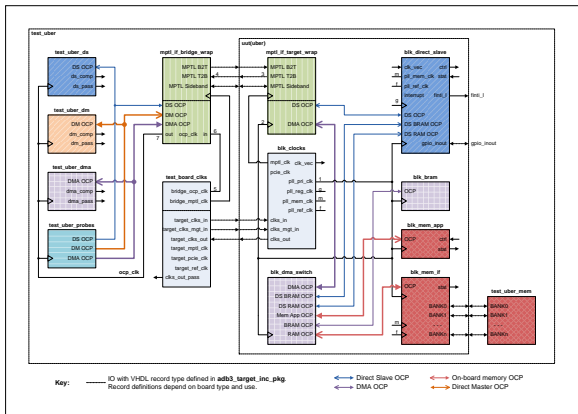

Figure 23: Uber Design Testbench and Top Level Block Diagram (MPTL)
**Figure 23** shows the testbench and main elements of the **uber** FPGA design using MPTL interface IP.
- The testbench OCP clock **ocp\_clk\_out** path is shown in Figure 23 as the route consisting of points 1, 2, 3, 4 and 7.
- The testbench OCP clock **ocp\_clk\_out** path is shown in Figure 23 as the route consisting of points 5, 6 and 7.